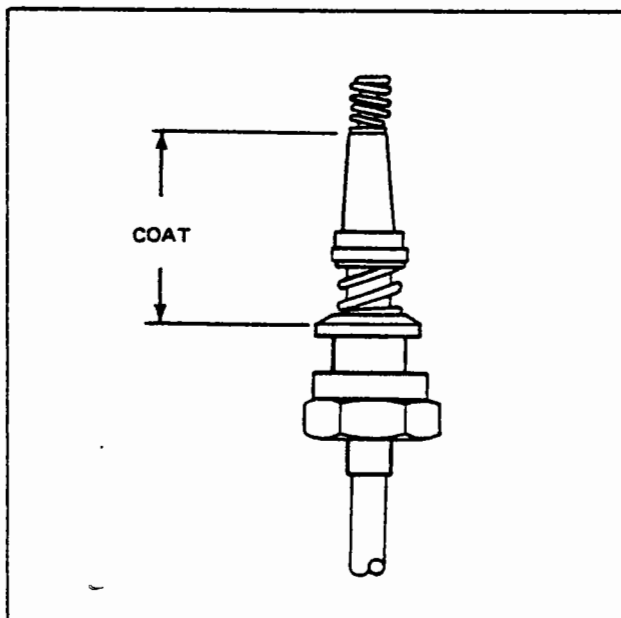
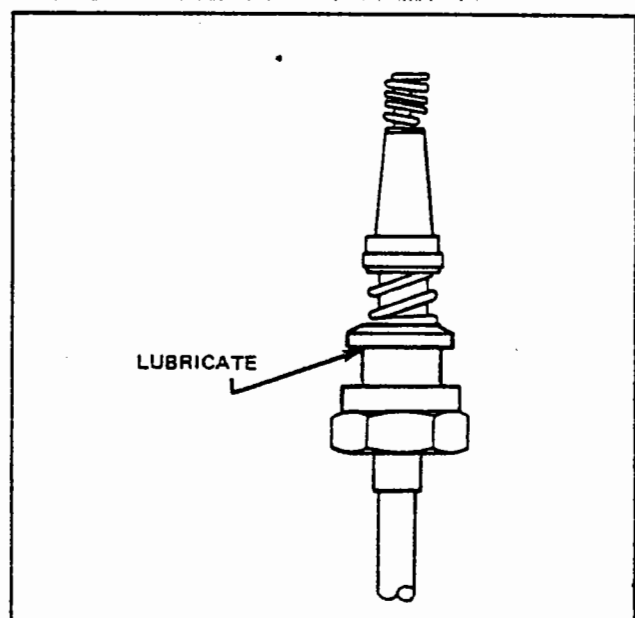

Figure 74-30. Lubricating Sleeve
Figure 74-31. Lubricating Ferrule Shoulder
9. Prior to seating spark plug lead terminal in plug barrel use fluorocarbon spray on spark plug terminal insulating sleeve (refer to Figure 74-30) to prevent heat from sticking sleeve to spark plug barrel. Lightly lubricate the shoulder of ferrule to minimize twisting of ferrule. (Refer to Figure 74-31.) Use GO-JO NO LOK manufactured by Goger Inc., Akron, Ohio 44309.